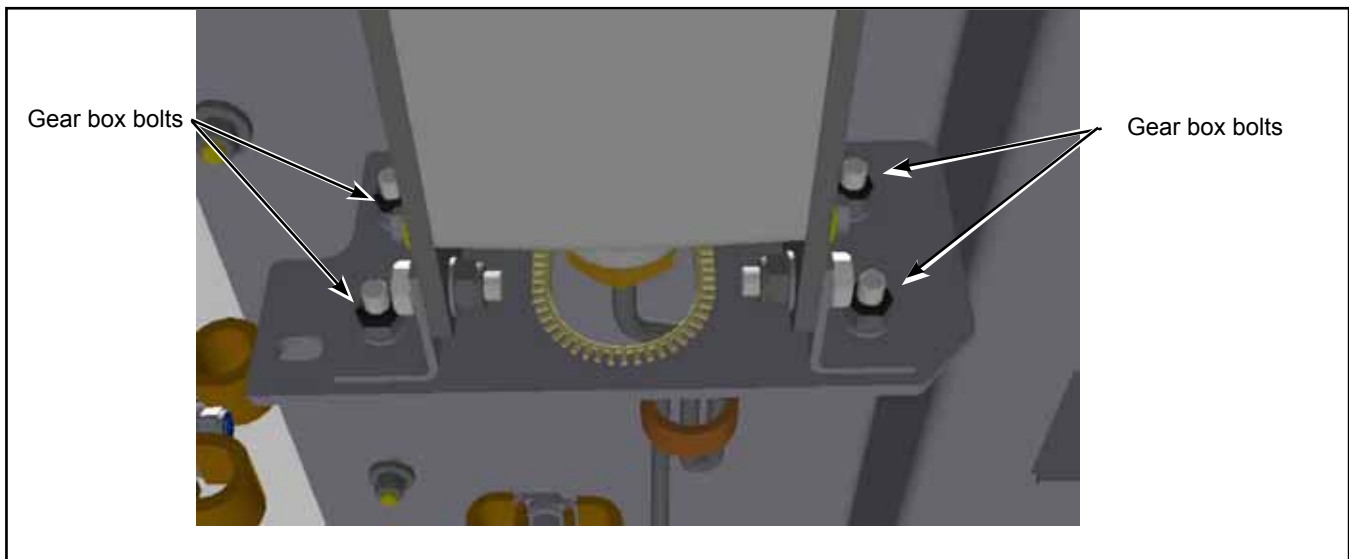

Figure 5 - Gear Box Attachments
- 2.7. Loosen the 16 bolts that retain the actuator gear box to the vehicle. See Figures 5 and 6.